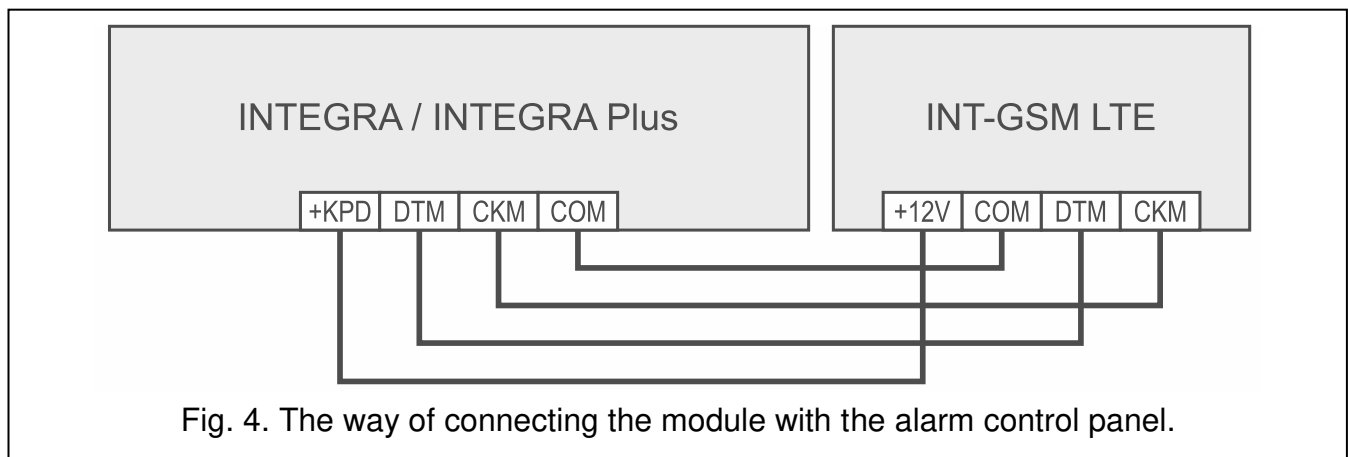

Fig. 4. The way of connecting the module with the alarm control panel.
1. Connect the +12V, COM, DTM and CKM module terminals to the control panel terminals (Fig. 4). To connect the +12V and COM terminals, use flexible conductors with a cross-section of 0.5-0.75 mm². If you use the "twisted pair" type of cable to connect the DTM and CKM terminals, keep in mind that the CKM (clock) and DTM (data) signals must not be transmitted using one pair of twisted wires. The wires must be run in one cable.